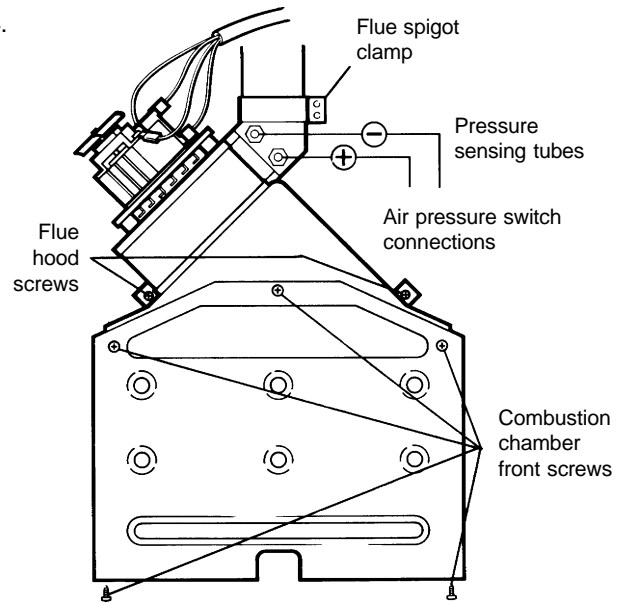

Fig. 20
8.7 FAN - Fig. 20
Ensure the pressure tubes are connected correctly (see Fig. 20). (– and + marked on the fan outlet), and that the bottom of the combustion chamber cover is located in the burner.